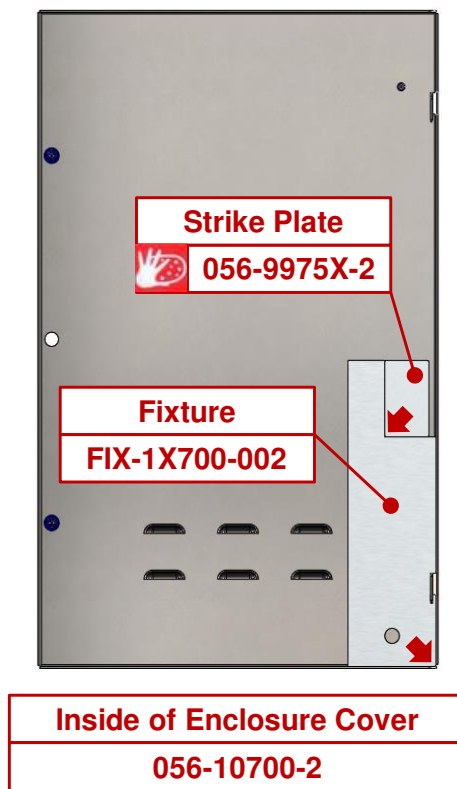

Figure 3: Install Strike Plate
4.2.1 Install the strike plate (056-9975X-2) as shown in **Figure 3**.